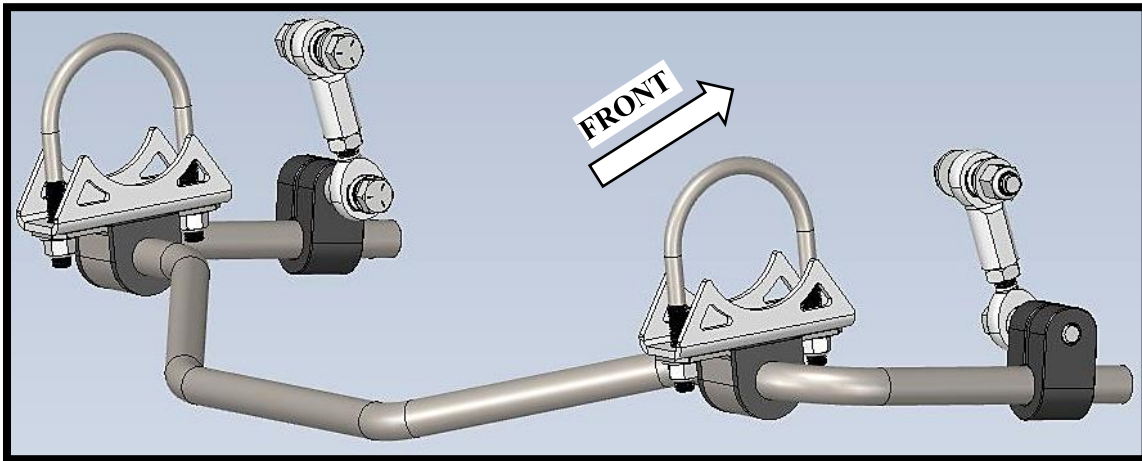

Figure 1
1. Lightly grease the inner bushings with marine grease before loosely mounting the sway bar to the axle using the included u-bolt kit (#7,#8, #9) and sway bar bushing clamps. (Figure 1 & 2) The legs of the bar should be pointing towards the front of the vehicle and the rear of the bar biased downward. Leave the u-bolts loose until the bar is fully installed so the angle of the mount can be adjusted.